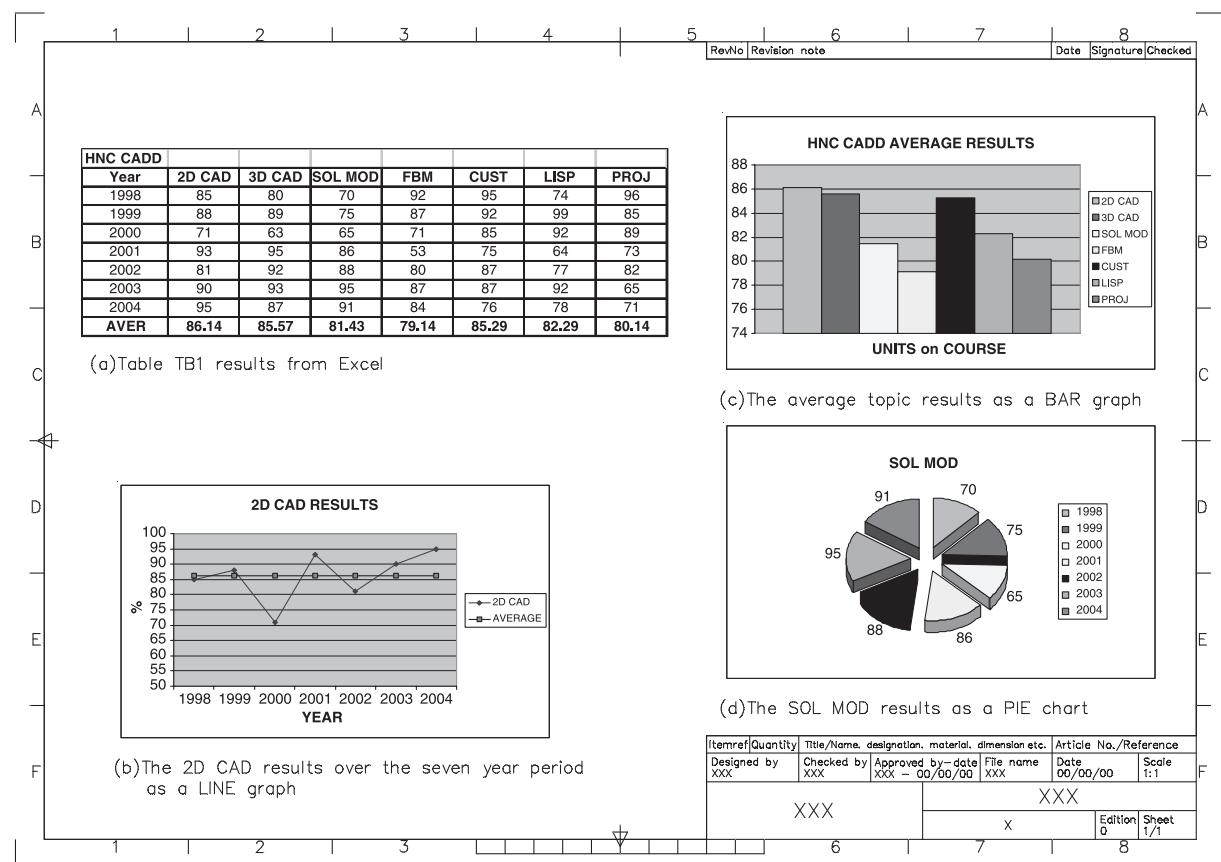

Figure 24.6 The results for TB1 using Excel.
- 8 Figure 24.6 displays the TB1 data from Excel 'copy-and-pasted' back into AutoCAD.